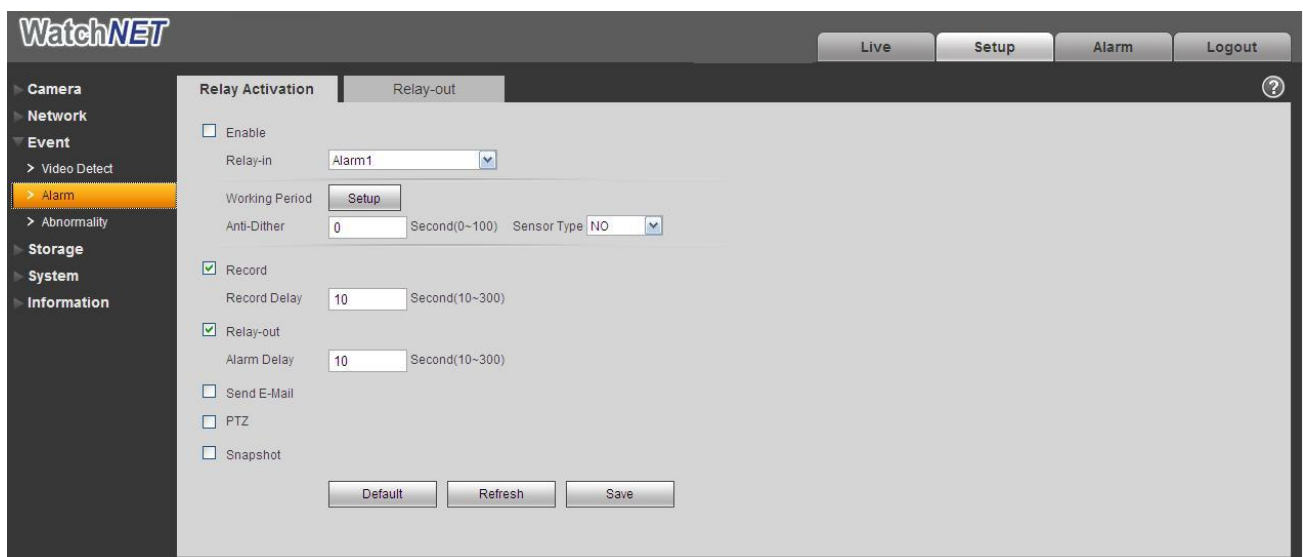

Figure 2-7
The alarm interface is shown as in Figure 2-7. Please follow the steps listed below for local alarm input and output connection.
- 3) Open the Web, go to the Figure 2-7. Please set the alarm input 01 port for the first channel of the I/O cable (No.4 pin). Then you can select the corresponding type (NO/NC.)